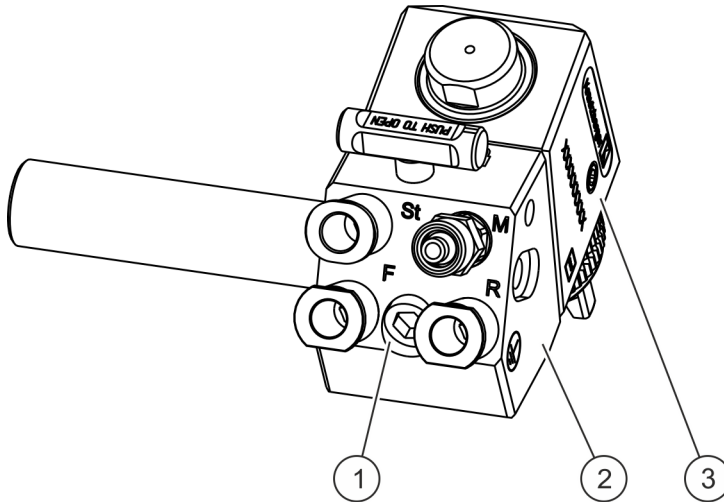

Fig. 5: Removing the main elements - screw design
1. ➡ Loosen the screw (Fig. 5/1).
2. ➡ Remove the main element (Fig. 5/3) from the adapter (Fig. 5/2).
1. ➡ Push the main element (Fig. 5/3) onto the adapter (Fig. 5/2).
2. ➡ Screw on the main element (Fig. 5/3) and adapter (Fig. 5/2) with the screw (Fig. 5/1).